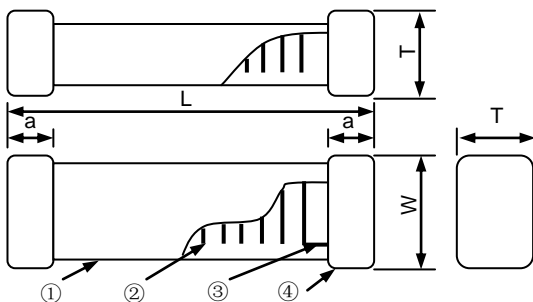
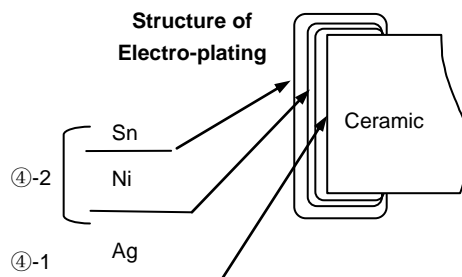

Fig. 4-3
Fig. 4-4
- 2) Structure: See **Fig. 4-3** and **Fig. 4-4**